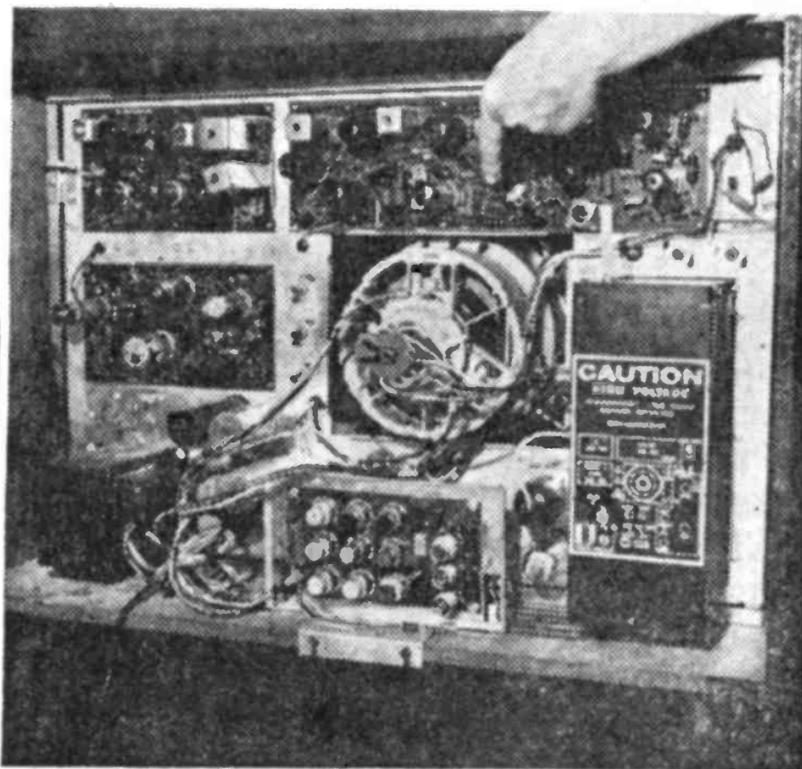

Fig. 4. Most color circuits are located on the "chroma" board. In typical set above, finger points to chroma board that occupies most of top half of chassis.
**Troublesome Bottles.** Tubes are usually the major cause of trouble so check them first. Since the no-color problem is almost always in receiver circuitry that handles only color, you won't have to look very far. It is common practice for the manufacturer to localize all chroma stages in one area. In many cases it is a separate printed circuit board, as in Fig. 4. And usually the function of one or more chroma stages is con-